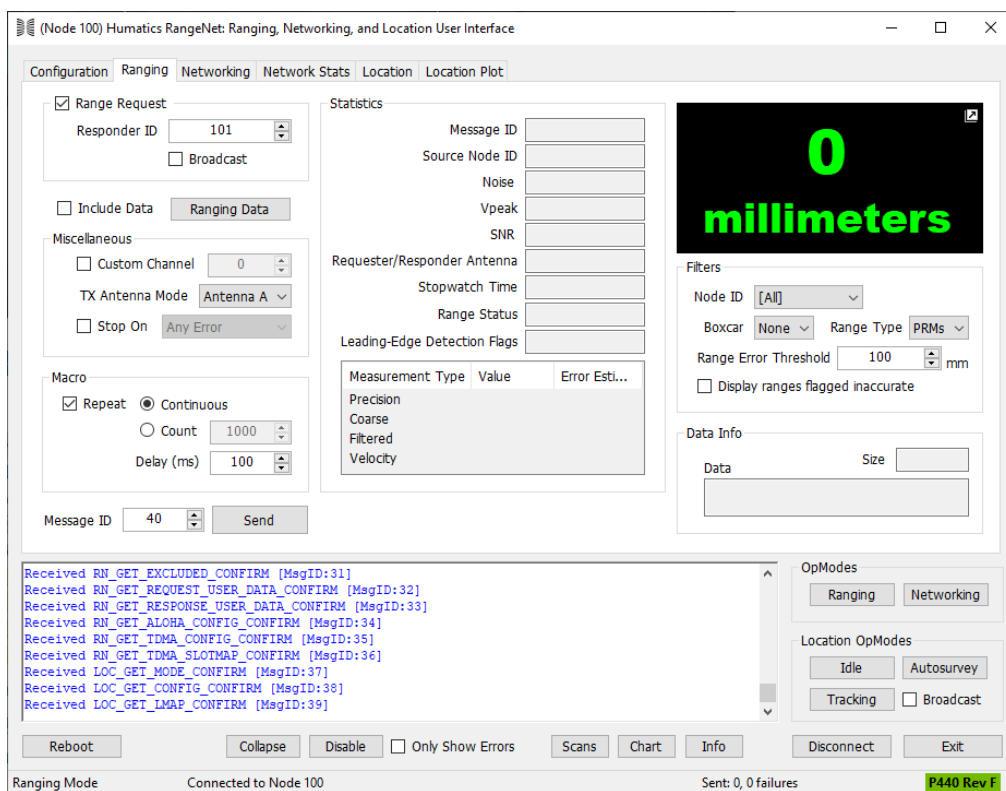

Fig. 10: RangeNet GUI Ranging Tab
3. In the RangeNet GUI, select the Ranging Tab (**Figure 10**).